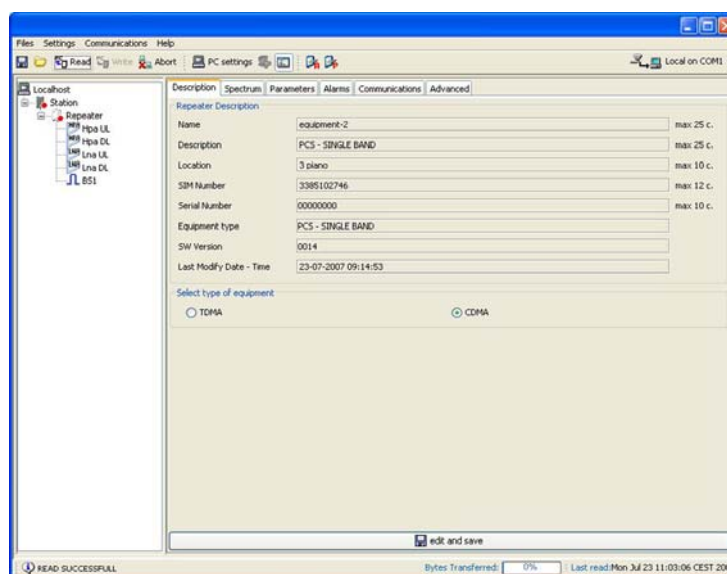

FIGURE 10 – Selection TDMA / CDMA
- In the description panel, the user should select (FIGURE 10) if the system is TDMA or CDMA. This selection allows to load the right values of RF power transmitted by the HPAs (only for 1900MHz repeaters)